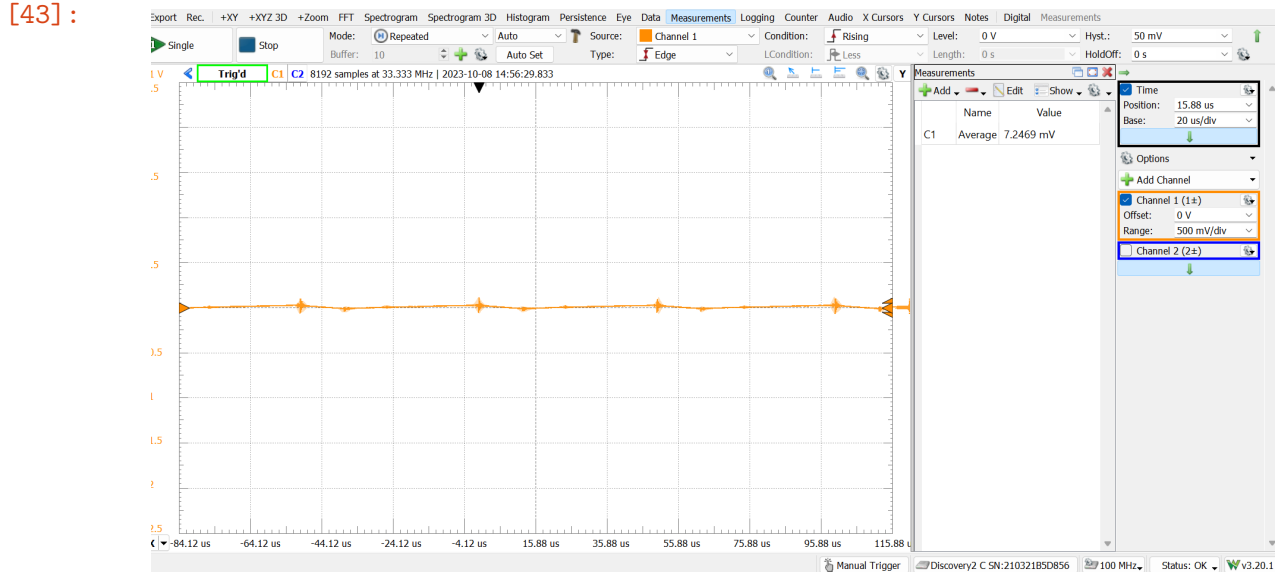

Figure 16: Voltage drop over shunt resistor R_S
- Then I zoomed in as far as I could with the graph still (somewhat) stable, and Waveforms settled on $7.2 \pm \frac{0.05}{\sqrt{3}} mV$, but the last value flickered a lot. This measurement can be seen in Figure 16.